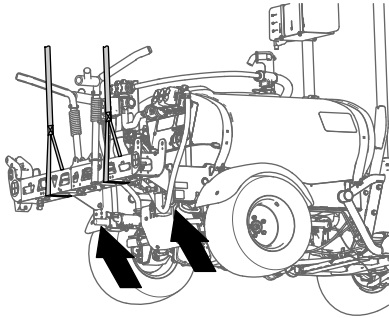

Figure 49
2. Support the center-spray section with lifting equipment with the specified capacity (Figure 49).